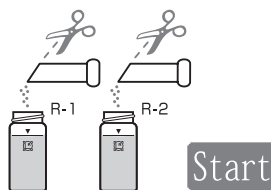

Fig.7
6. Add R-1 and R-2 Reagent into the cell and press <Start>. (Fig.7)